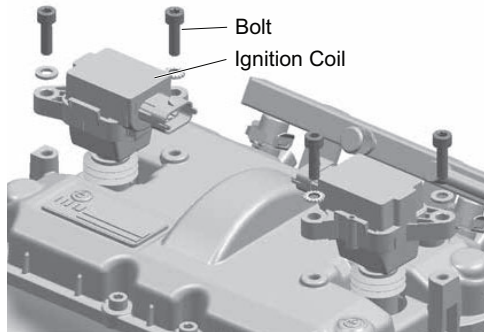

Fig. 12 Remove Ignition Coil
- Remove the bolts and washers securing the ignition coils to the engine (Ref. Fig. 12).